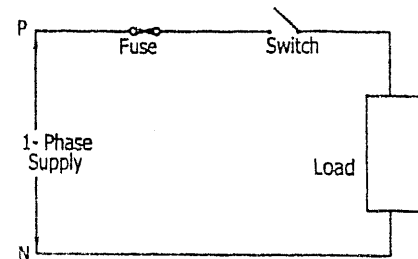

FIG. 5.1 : CONNECTION OF FUSE IN A CIRCUIT
- A fuse is connected in series with the circuit to be protected as shown in Fig. 5.1 and carries the load current without overheating under normal conditions.